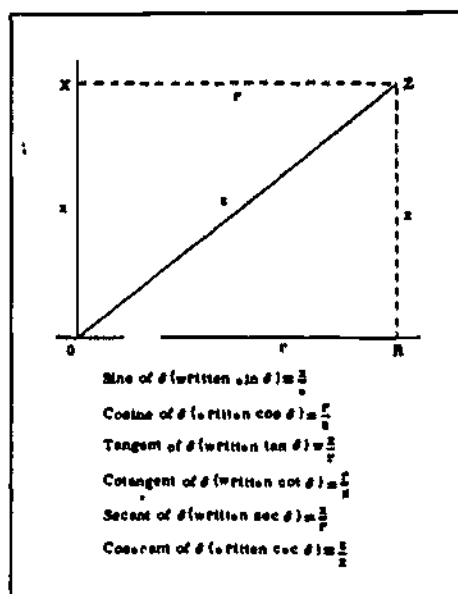

Figure 29. Trigonometric Ratios
a. RATIOS - In Figure 29,  $\theta$  is the angle ZOR, OR is the projection of OZ on the horizontal axis, OX is the projection of OZ on the vertical axis. The letters  $r$ ,  $x$ , and  $z$  represent the lengths of OR, OX and OZ respectively. There are, in all, six different ratios between the sides  $r$ ,  $x$ , and  $z$ . They are called trigonometric ratios or TRIGONOMETRIC FUNCTIONS.
b. FUNCTIONS - Generally you will use the first three,  $\sin \theta$ ,  $\cos \theta$ , and  $\tan \theta$ , in your work. You can save much time by memorizing them. Notice that three of the functions,  $\csc \theta$ ,  $\sec \theta$ , and  $\cot \theta$ , are the reciprocals of  $\sin \theta$ ,  $\cos \theta$ , and  $\tan \theta$ , respectively. If you suppose that Figure 29, OZ has a unit length of 1 and is rotated in a counterclockwise direction beginning with angle  $\theta$  at  $0^\circ$  value and continuing until it is  $90^\circ$ , then the functions will vary within the following limits.